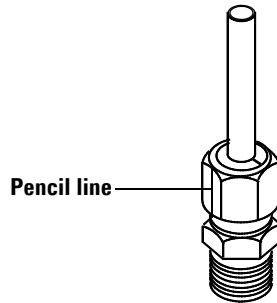

Figure 22 Marking the fitting
- 7 Mark the nut with a pencil line (Figure 22).